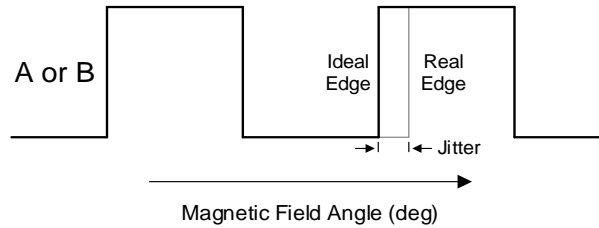

Figure B1: ABZ Jitter
- ABZ Jitter** The jitter characterizes how far a particular ABZ edge can occur at an angular position different from the ideal position (see Figure B1).